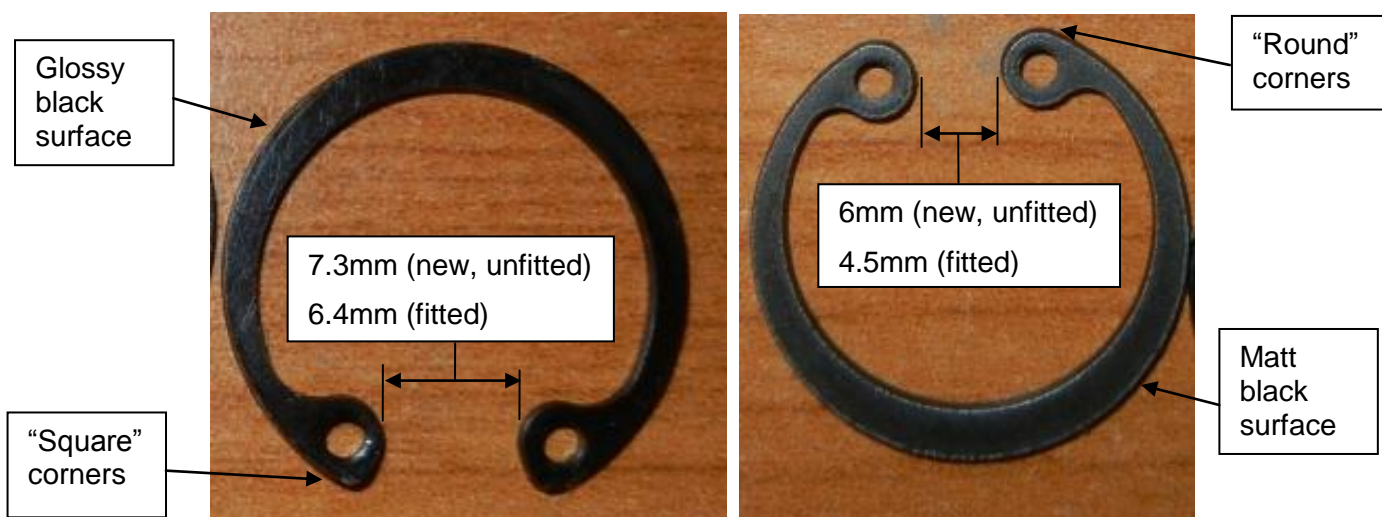

Figure 1 – Type A (Left) & Type B (Right) Circlips1
- Subsequent testing has shown that these clips are unusually sensitive to installation technique compared to clips manufactured to DIN 472. In particular, the JIS clips have a larger gap between the clip “eyes” giving greater potential for installers to over-compress and damage the clips on installation. In Figure 1 the “Type A” clip meets JIS B 2804 while the “Type B” clip meets DIN 472.